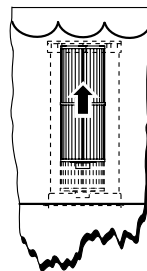

Figure 13.1d
4. Remove each filter by twisting it ¼ turn counterclockwise and lifting out of its canister, Figure 13.1d.